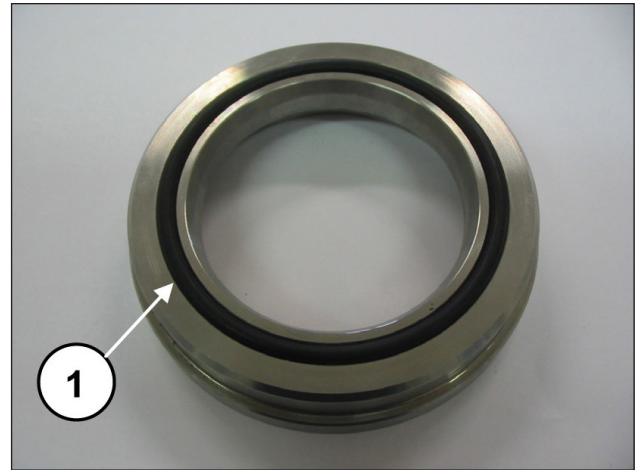

Fig. 156
Now assemble the O-ring (pos. ①, Fig. 156) on the KC seal head ring and position it in the housing on the head.